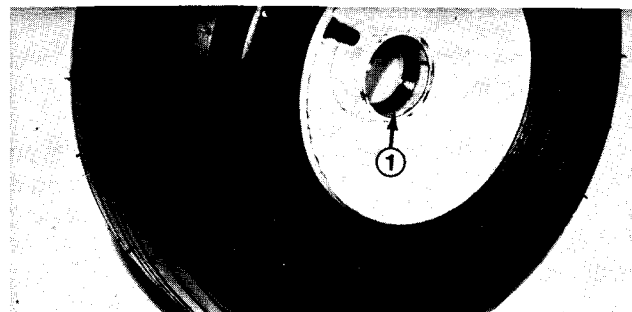

Figure 4
6. If bearing cups were removed from the wheel hub, press them into the hub until they seat against the shoulder. (Fig. 4)